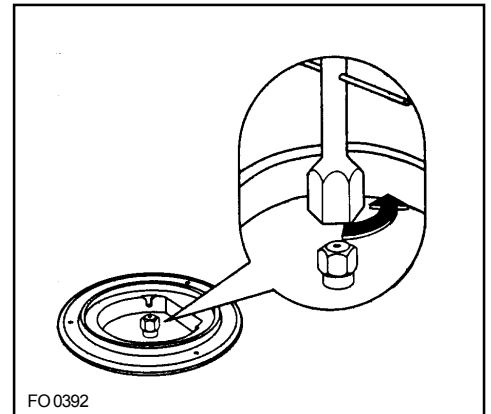

Fig. 7
- With a socket spanner 7 unscrew and remove the injectors (Fig. 7), and replace them with the ones required for the type of gas in use (see **table 2**).